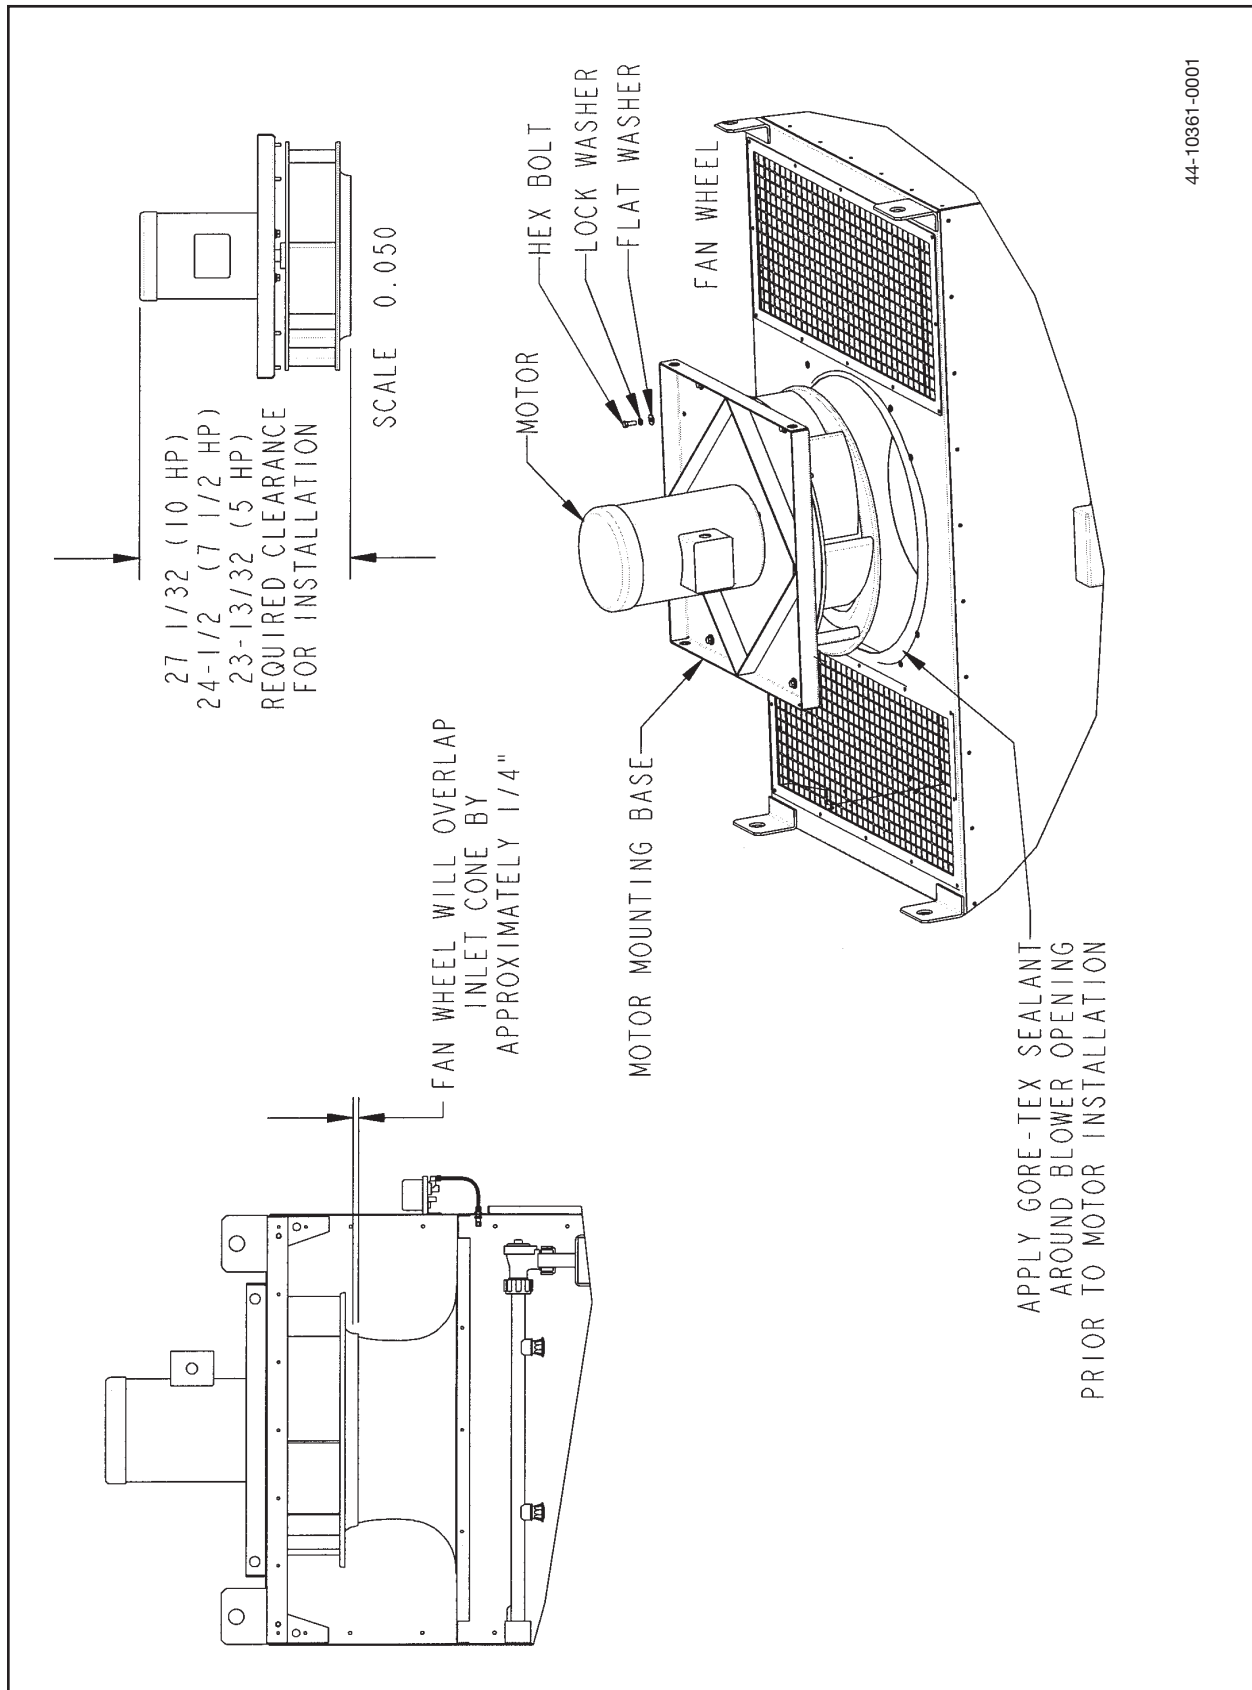

Figure 4
2. The blower assembly mounts on the top panel of the MCB cabinet with the fan wheel inside the cabinet. Using provided hardware, mount the blower as shown in Figure 4. There should be a 1/4" overlap of the wheel and cone.